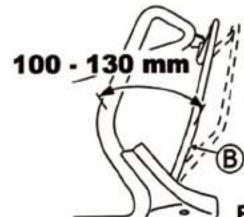

Fig. 31
Adjust so that the machine runs (the drive clutch gets engaged) when the distance between Drive clutch lever (B) and the handle is 100 - 130 mm as shown in Fig. 31.